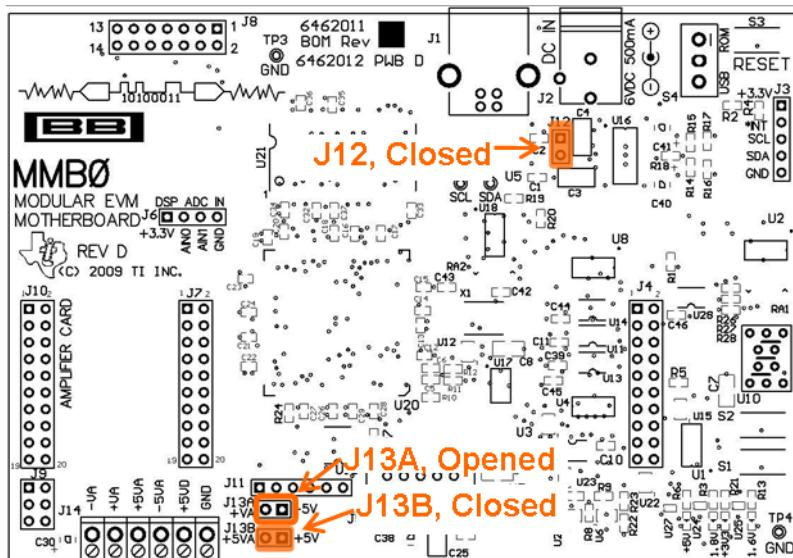

Figure 7. MMB0 Motherboard Jumper Configuration
Step 2. Set J12 to closed, J13A to open, and J13B to closed on the MMB0, as shown in Figure 7.